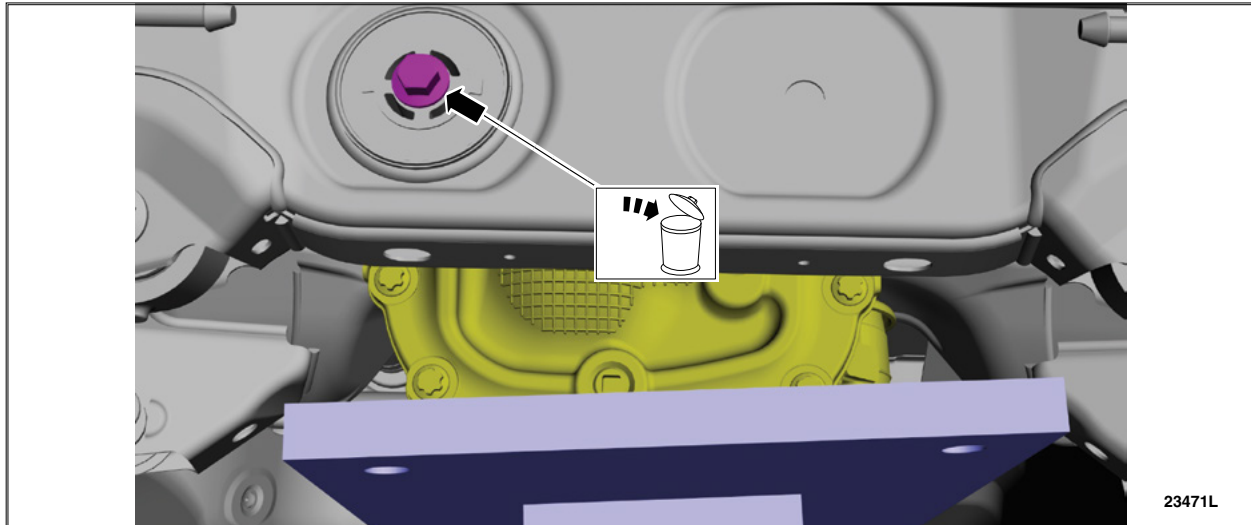

FIGURE 14
20. Remove and discard the rear axle housing support rear bolt. See Figure 14.